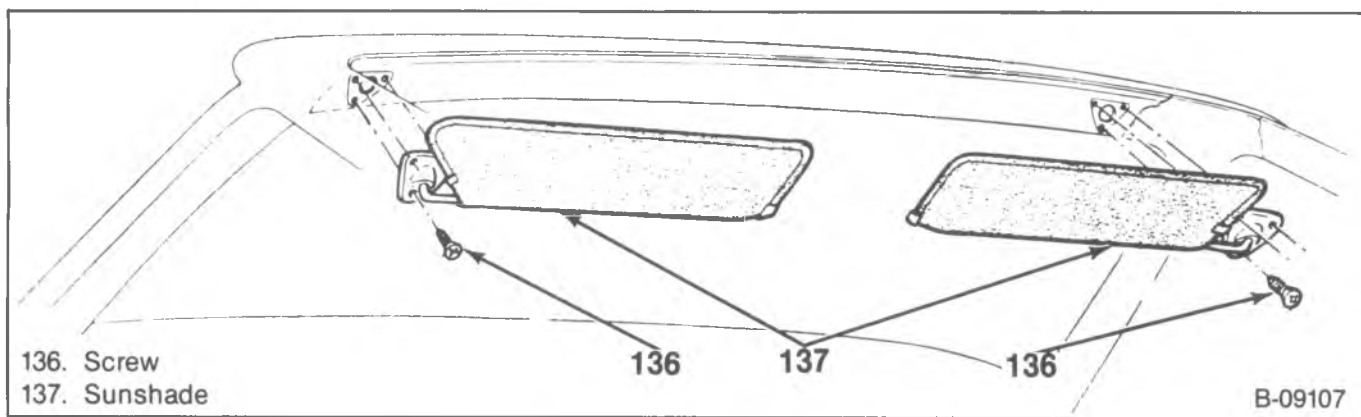

Figure 45—Sunshade
3. Sunshade screws and the sunshade (figure 45).
12. Sunshade and screws (figure 45).